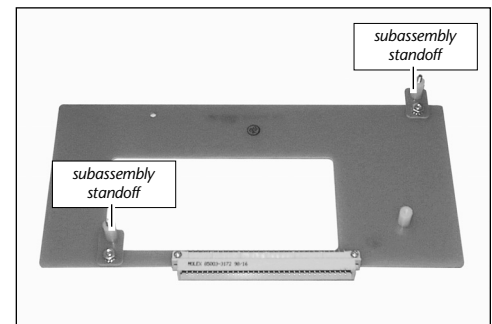

Figure 34: Assemble subassembly standoffs for HPV card
- Using a small Phillips screwdriver, remove the three standoffs from the video adapter board. Locate the two subassembly standoffs from the video adapter packaging. Assemble and secure one subassembly standoff to the upper right corner of the board, and the other subassembly standoff to the lower left corner (**Figure 34**).